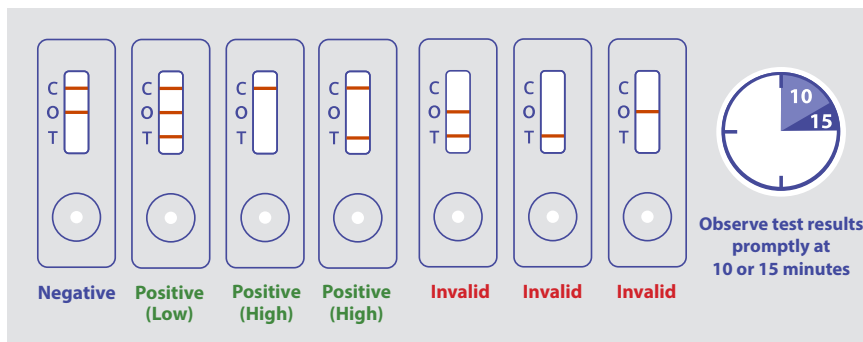

Figure 3. Interpreting Test Outcomes
9.1. A negative result is indicated by the development of a strong control line (C) and overload (O) line. An example of a negative result is depicted in **Figure 3** labeled "**Negative**".
9.2. Positive test results at lower analyte concentrations will result in the appearance of the test line (T) in addition to the overload line (O) and/or the control line (C). At higher analyte concentrations, the test line (T) and/or the overload line (O) will disappear, leaving only the appearance of the control line (C). Thus at high analyte concentrations, the disappearance of the overload line (O) indicates that the sample is positive for the analyte regardless of the appearance of the test line (T). Examples of positive results are depicted in **Figure 3** labeled "**Positive**".